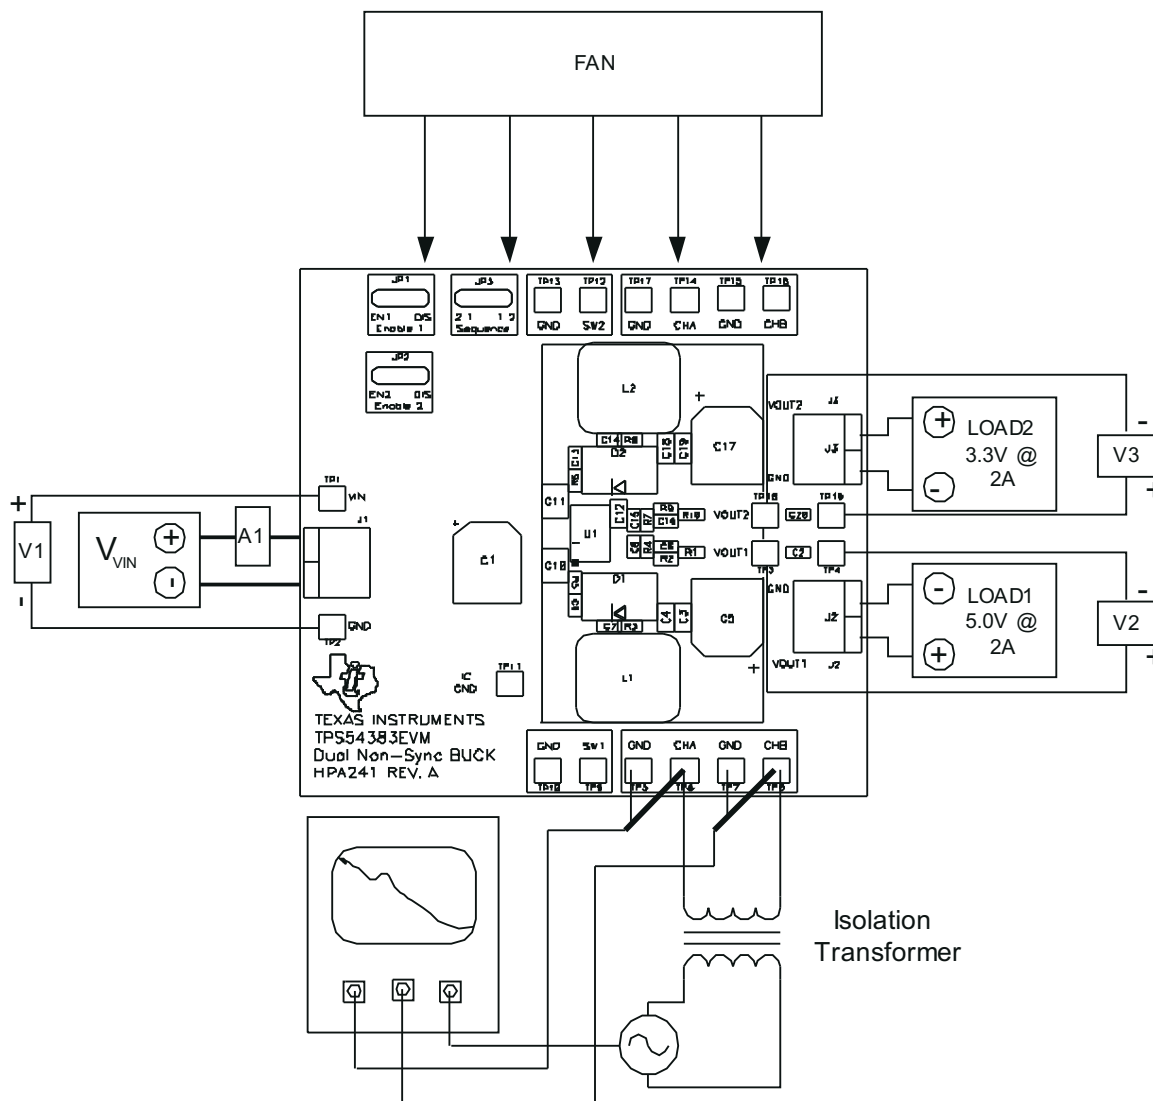

Figure 4-3. Control Loop Measurement Setup
1. Connect 1 kHz to 1 MHz isolation transformer to TP6 and TP8 as show in Figure 4-3.
2. Connect input signal amplitude measurement probe (Channel A) to TP8 as shown in Figure 4-3.
3. Connect output signal amplitude measurement probe (Channel B) to TP6 as shown in Figure 4-3.
4. Connect ground lead of Channel A and Channel B to TP5 & TP7 as shown in Figure 4-3.